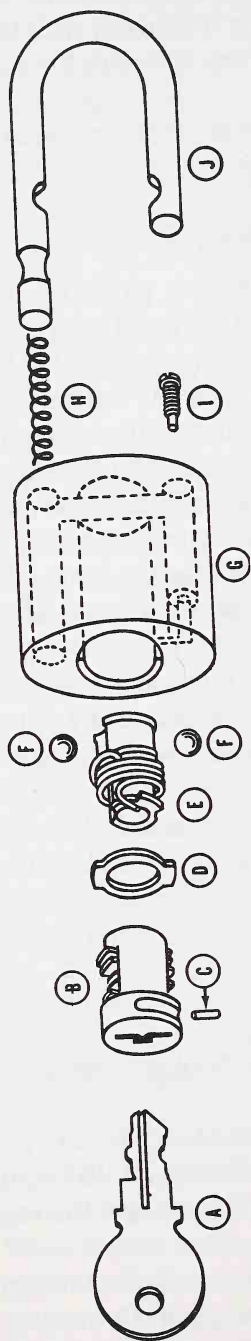

Fig. 17-5. A popular American padlock.
2. Remove the retaining screw (I in Fig. 17-5). If the screw is stubborn, use penetrating oil, letting it set a few moments before attempting to turn the retaining screw.
3. Strike the side of the lock with a leather mallet. The purpose is to force the retaining pin (C) into the space vacated by the retaining screw. Referring to the
The brass retainer is the heart of the assembly (E in Fig. 17-5). Retainers vary in size according to the lock model. A30 and AC20 retainers have a groove milled in the body. L50, K60, and KC40 retainers are plain. The H10 is much larger than the others.
The various models have different shackle lengths and diameters. The spring (H in Fig. 17-5) must match. For example, an L-shaped spring is used on the L50 lock. An extra pin is used to guide the long spring on the K60.